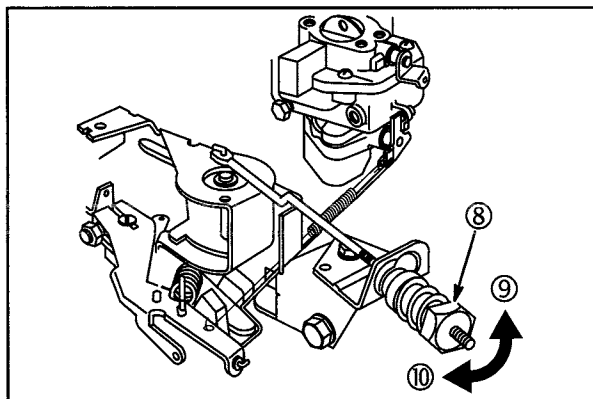

Fig. 41
10. Engage fixed speed adjustable control nut (8) and adjust to Regulated No-Load RPM for the type of generator listed in Table 1, Fig. 41.
- Turn nut CLOCKWISE (10) to increase speed.
- Turn nut COUNTERCLOCKWISE (9) to decrease speed.